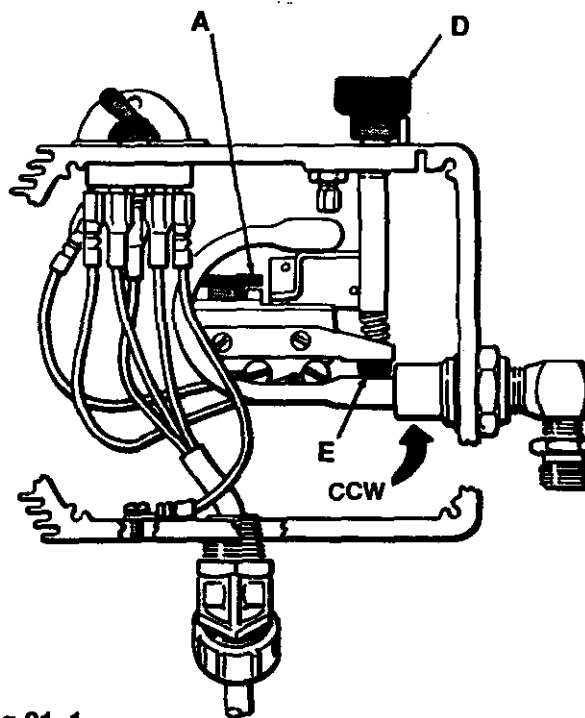

Fig 21-1
Pressure Control Calibration (See Fig 21-1)
3. With the gun safety latch engaged, start the engine (only). Using a 3/8" ignition wrench, turn the pressure adjustment nut (E) **clockwise** two full turns. See Fig 21-1. With the pressure control knob (D) turned to the minimum setting, turn the sprayer switch ON.